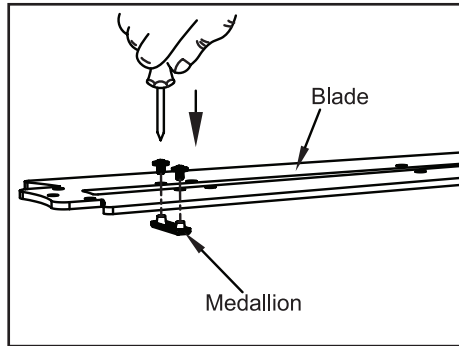

Figure 9
1. Attach medallion to blade using two washer head screws supplied (Figure 9). Start a screw into the blade. Repeat for the remaining screw.